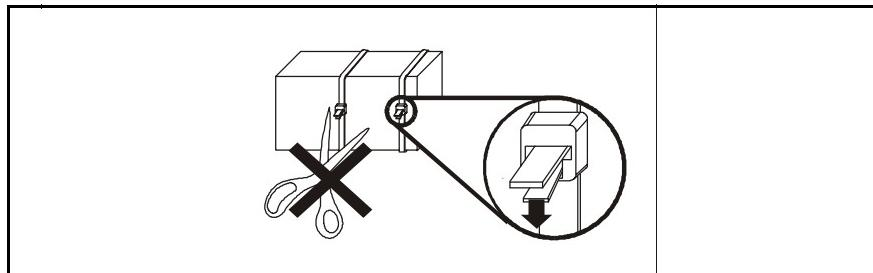

Figure 3-3 Battery Cable Ties
After removing the rear access panel, **do NOT cut the ty-wraps** securing the Main Battery to the rear housing. They have been designed to be releaseable, and the monitor must be opened to replace them. See Figure 3-3.
3) Depress release tab on each ty-wrap lock (see Figure 3-3) and pull ty-wrap tongues out of locks to free battery.
6) Depress release tab on each ty-wrap lock (see Figure 3-3) and pull ty-wrap tongues out of locks to permit removal of speaker cable. Note routing of speaker cable for use in reassembly.